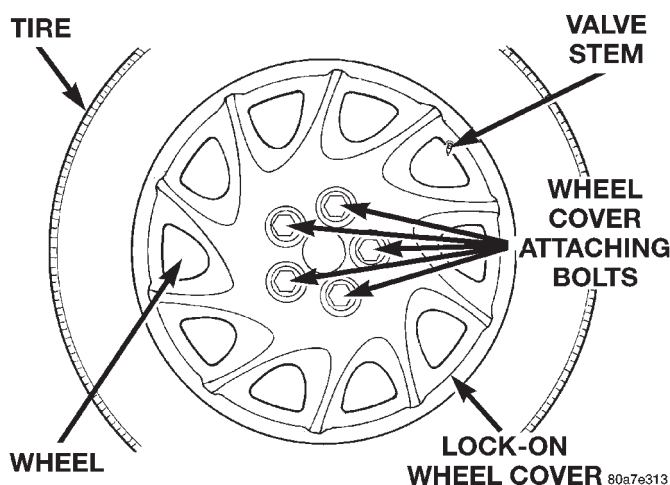

Fig. 11 Wheel Cover Attaching Nuts
NOTE: When unthreading the wheel cover retaining nuts (Fig. 11) from the wheel nuts it is recommended that a hand wrench be used and not an impact wrench. Use of an impact wrench could result in damage to the lock-on wheel cover retaining nuts.
(1) Un-thread the 5 nuts (Fig. 11) attaching the wheel cover to the wheel nuts.
(1) Align the valve notch in the wheel cover with the valve stem on the wheel (Fig. 11). Align the wheel cover retaining nuts with the externally threaded wheel nuts.
(2) By hand, start to thread all 5 of the wheel cover retaining nuts onto the externally threaded wheel nuts.